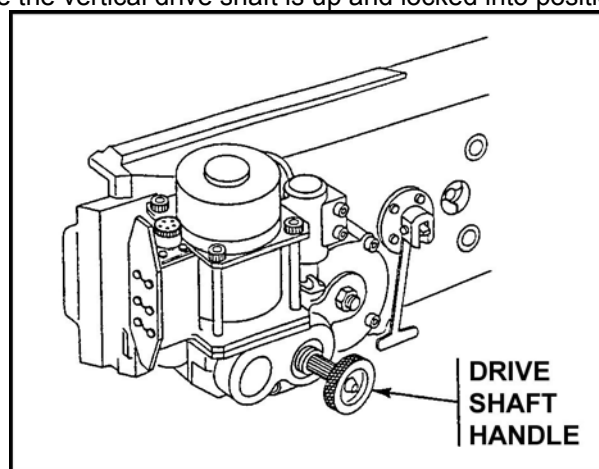

Figure 16. Vertical drive shaft.
- ( b ) Ensure the vertical drive shaft is up and locked into position (Figure 16).